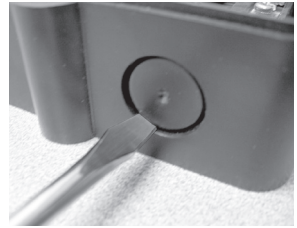

Figure 1. Knockout Removal
- The junction has four (4) ½" knockouts; two (2) on the bottom and one on each side. Use a tool such as a flat screwdriver to remove the knockouts. Remove only the required knockouts by hitting the perimeter and not the center as shown in Figure 1.